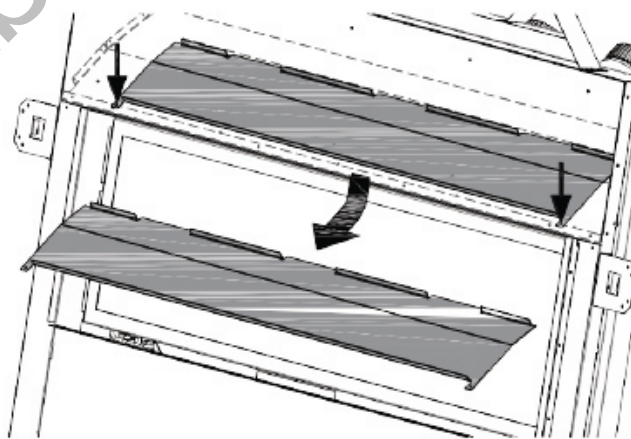
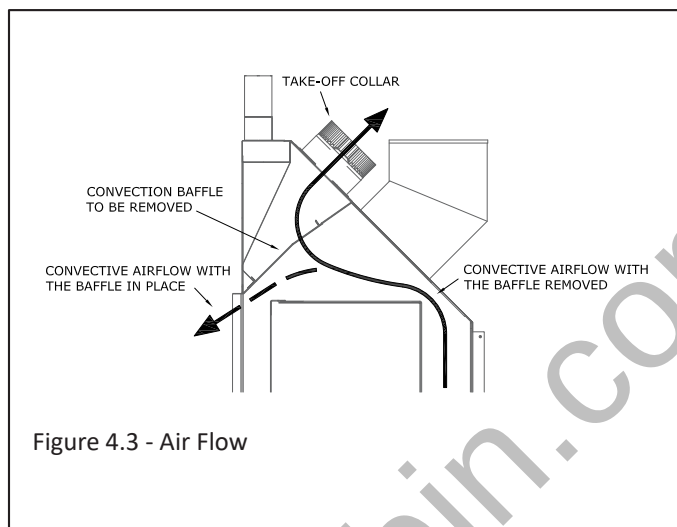

Figure 4.2 - Convection Baffle Removal
Figure 4.3 - Air Flow
3. Locate the convection baffle as shown in Figure 4.2. There are (2) screws that secure the convection baffle behind the upper edge of the fireplace opening. Remove the screws and convection baffle from the fireplace. Discard the convection baffle. See Figure 4.3 for information about airflow.